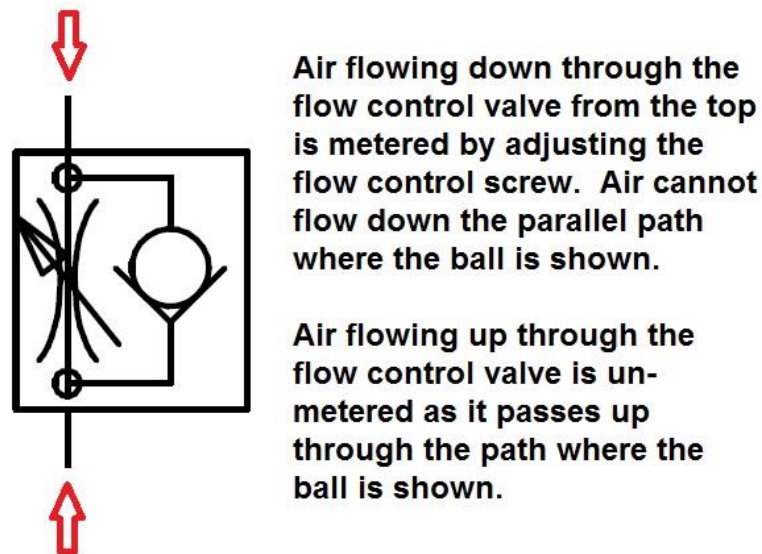

Figure 5.9
**Note** – it is important to route the air lines properly when replacing a flow control valve. Failure to do so will cause the system to not behave properly when adjustments are made. Figure 5.9 explains how a flow control valve works.